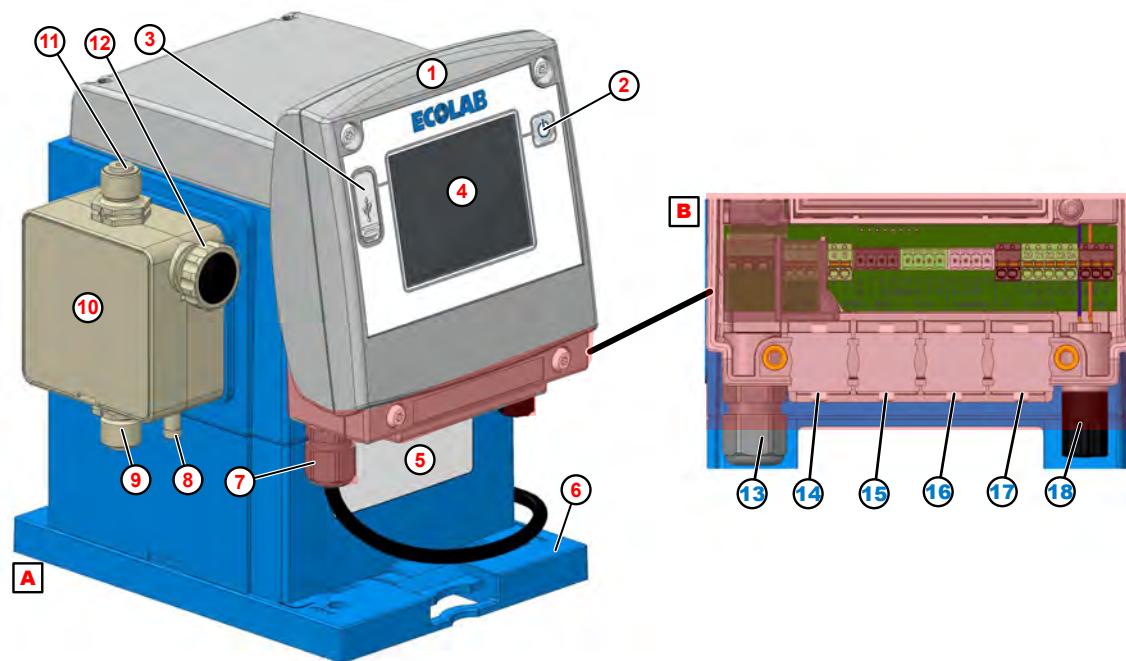

Fig. 11: Layout 'EcoAdd'
$AD \varnothing = 5.1-5.7 \text{ mm}$ (Fig. 11 , ⑭ - ⑰).